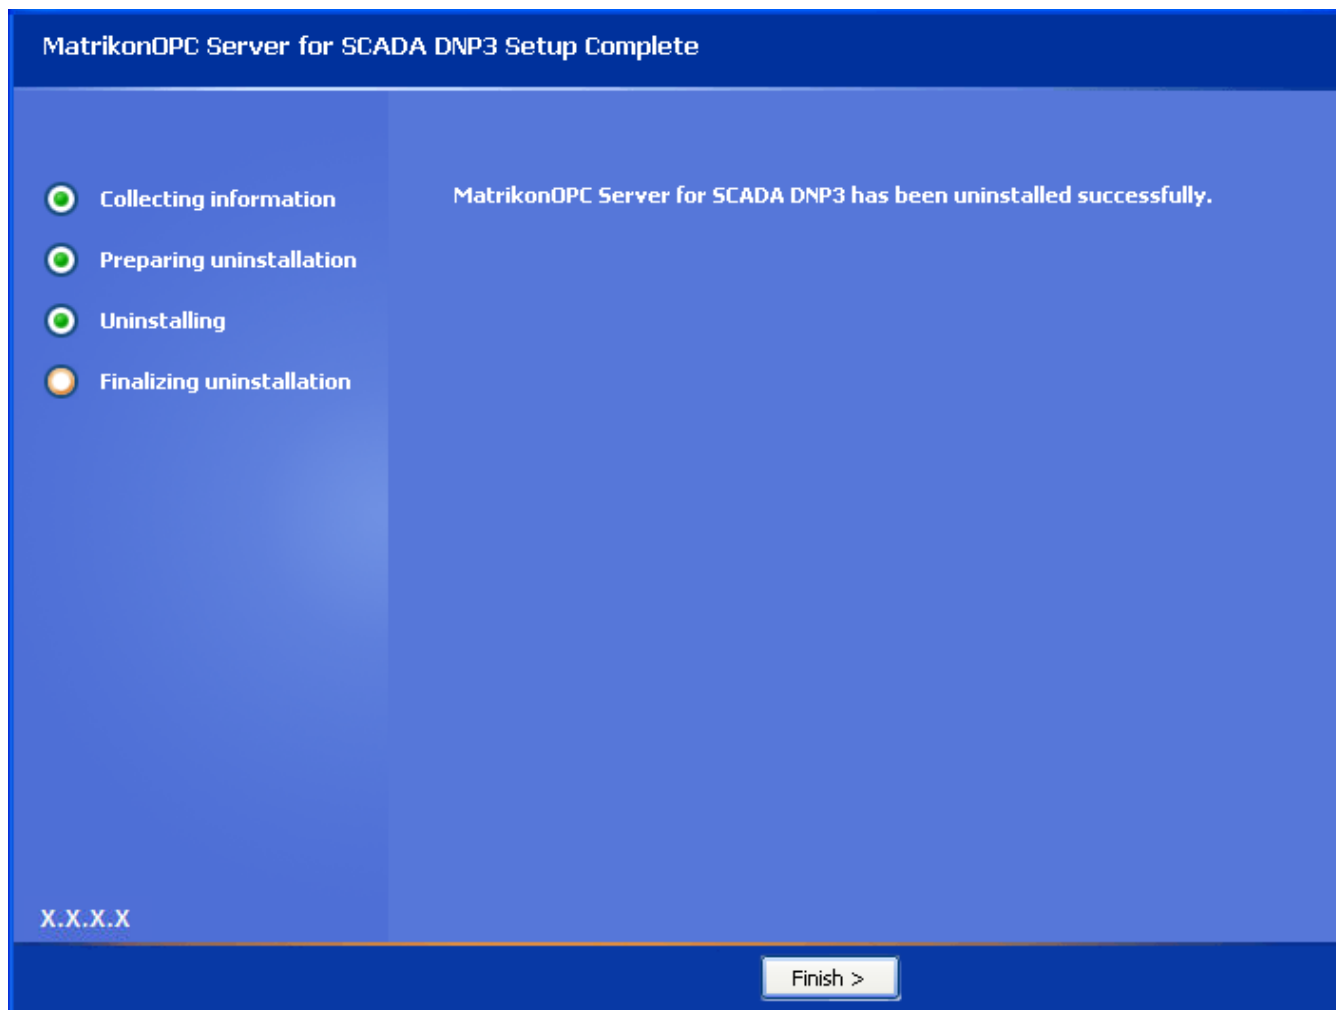

Figure 60 - MatrikonOPC Server for SCADA DNP3 Setup Complete Screen
11. When the un-install has finished, the **MatrikonOPC Server for SCADA DNP3 Setup Complete** screen (Figure 60) appears stating that MatrikonOPC Server for SCADA DNP3 was successfully un-installed.